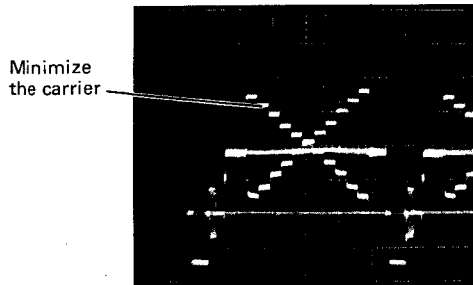

Fig. 5-6-26
- o Trigger the oscilloscope at H.rate. (Use TP9 (BL), Deflection board.)
- o Fine-adjust VR2 (R GAIN) and VR3 (B GAIN) on the Process board, VR1 (R GAMMA) and VR2 (R PEDESTAL) on the Process VIC2 board and VR1 (B GAMMA) and VR2 (B PEDESTAL) on the Process VIC3 board so that the carrier on the video signal is minimum. (Fig. 5-6-26)